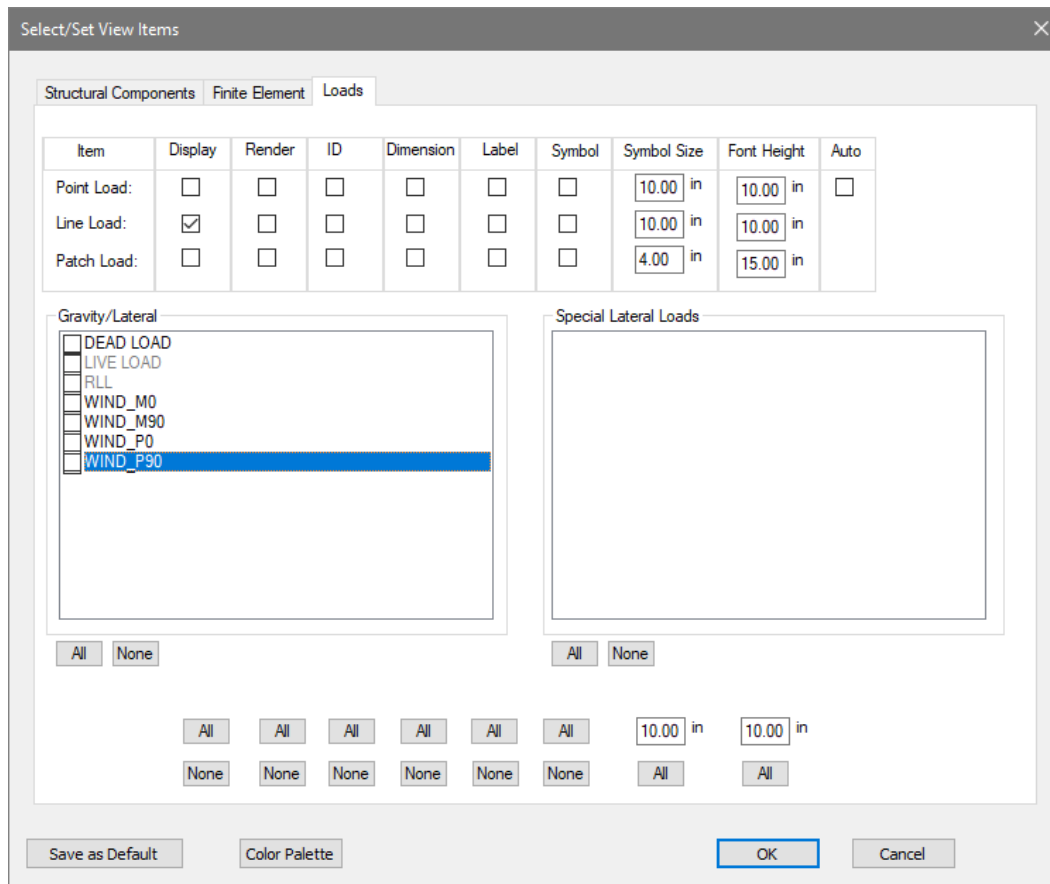

Figure 11-6
- Select the *Loads* tab and turn off the line load display for *Wind_M0*, *Wind_M90*, *Wind_P0*, and *Wind_P90* load cases. See **FIGURE 11-6**.